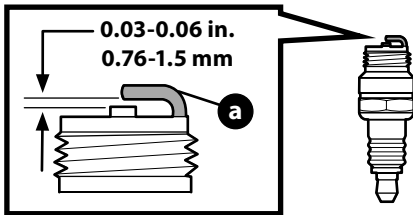

Figure 11
6. Measure the plug gap with a feeler gauge. Correct as necessary by bending side electrode (a) (Figure 11). The gap should be set to 0.030 - .06 in. (0.76 - 1.5 mm).